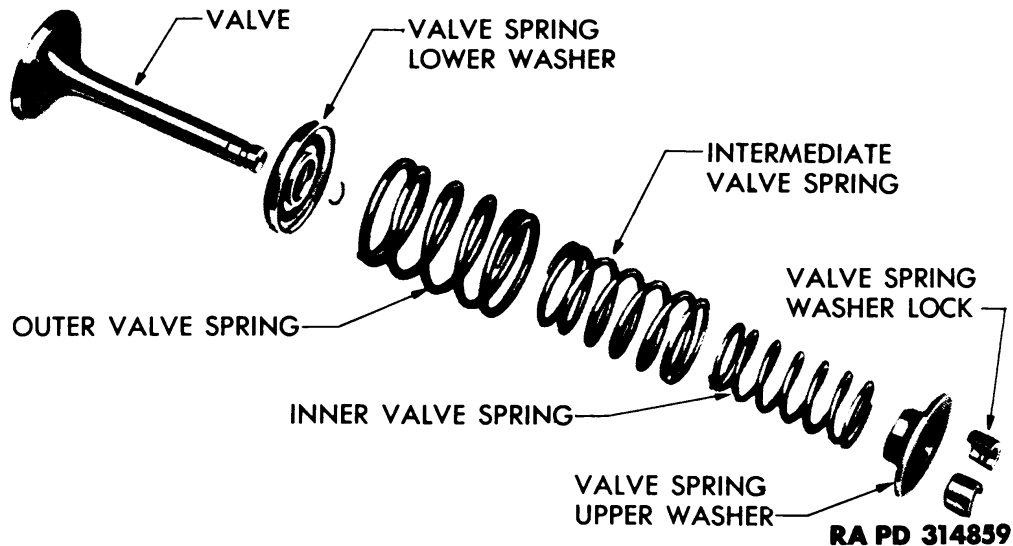

Figure 108 — Valve Assembly — Disassembled
(8) **VALVE SPRINGS, WASHERS, AND LOCKS** (fig. 108). Inspect valve springs for cracks, scores, pitting, and breakage. Test the tension of each spring in a valve spring tension testing machine. Discard any outer spring with a tension less than 90 pounds, at a spring height of 1.34 inches; any intermediate spring with a tension less than 69 pounds, at a height of 1.40 inches; and any inner spring with a tension less than 35 pounds, at a height of 1.32 inches (Table of Limits). Give valve spring washers a magnaflux inspection for cracks. Inspect washers visually for burs and excessive wear. Inspect valve spring locks for cracks, burs, and wear. Replace unserviceable springs, washers, or locks.
b. Install Valves. Apply engine oil liberally to valve stems (fig. 108). Insert intake and exhaust valves in position in their respective guides. While holding valves, place cylinder assembly on valve assembly fixture or block. Make sure lower valve spring retaining washer is in place in cylinder head. Install circket on upper end of both valve stems. Position three valve springs around each stem with upper ends in retaining washer. Compress valve springs (par. 23 c). Insert split valve locks. Release spring compressor carefully. Install remainder of valves in same way.